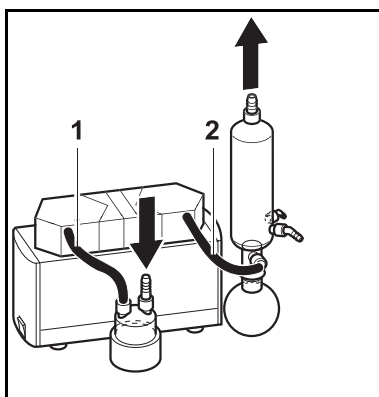

Fig. 15: Tubing system SH
2	Tubes (see fig. 15) ▪ Resistant to the medium employed ▪ Inside diameter 10 mm ▪ Length: (1) approx. 150 mm, (2) approx. 220 mm